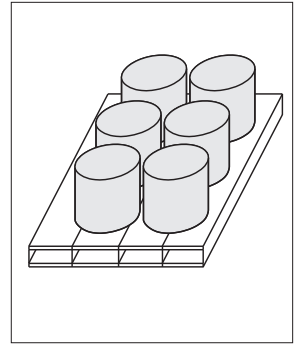

Figure 3
3. Resin and hardener shall be stored as shown in Figure 3.